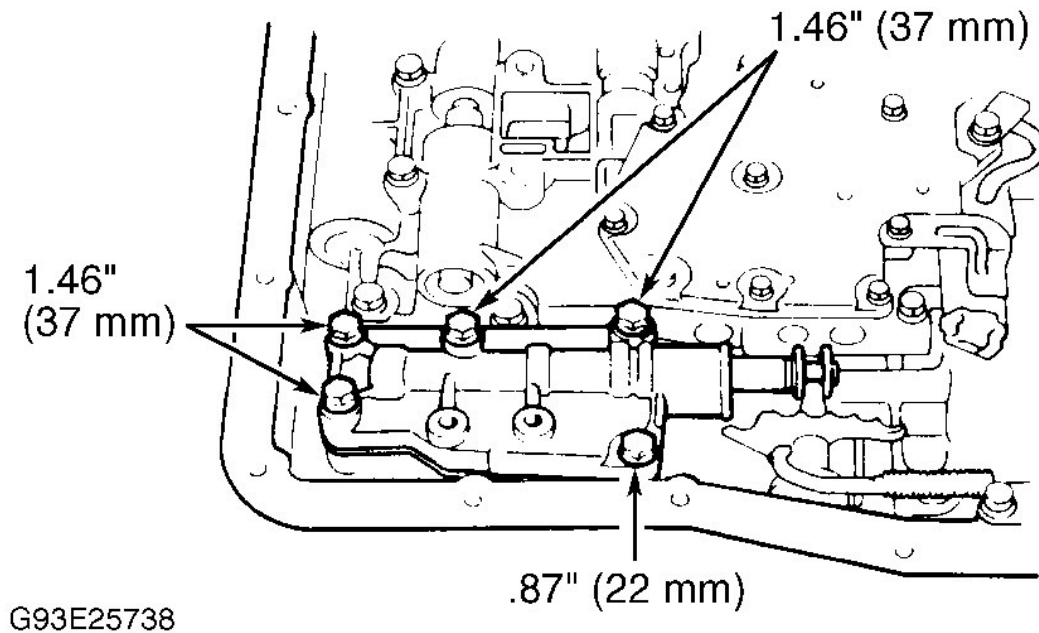

Fig. 3: Locating Manual Valve Body Bolts (A-241H)
2. Align manual valve with pin on manual shaft lever. Lower manual valve body into position. Install 5 bolts finger tight. See **Fig. 3** . Tighten bolts to 97 INCH lbs. (11 N.m).